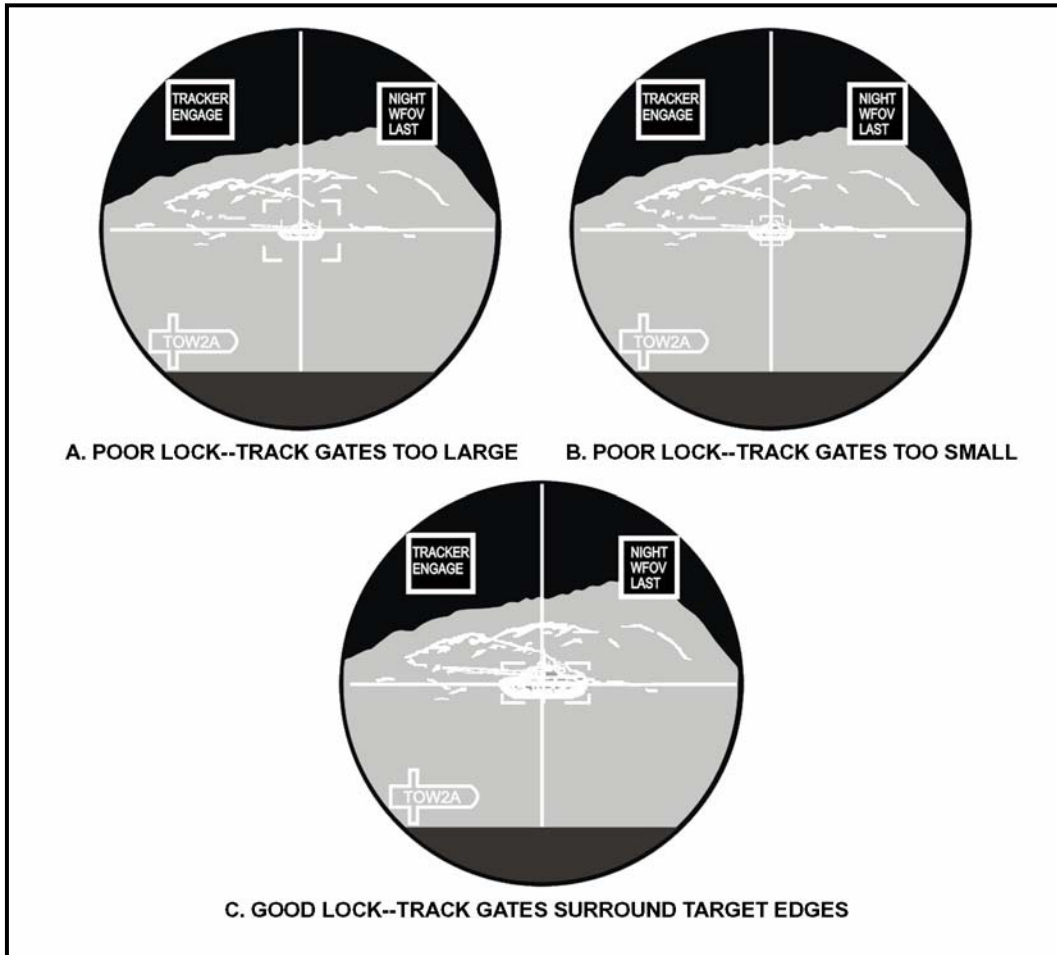

Figure 3-12. Proper track gate size.
b. Track Gates are Too Large. When the track gates are set too large (A, Figure 3-12, page 3-14), they include part of the surrounding terrain, which is undesirable because the tracker may lose the target during missile flight and impact on the “ground” part of the target instead of the “vehicle” part of the target. Various corrective actions can be taken.
(1) The gunner breaks the lock, adjusts the track gates so they are smaller, and relocks onto the target.
(2) The gunner may also move the position of the target within the track gates and attempt lock-on again.
(3) The gunner performs these actions until he achieves a good lock quality (C, Figure 3-12, page 3-14).
c. Track Gates are Too Small. When the track gates are set too small, they only surround a portion of the target instead of the complete target (B, Figure 3-12, page 3-14). Various corrective actions can be taken.
(1) The gunner breaks the lock, adjusts the track gates so they are larger, and relocks onto the target.